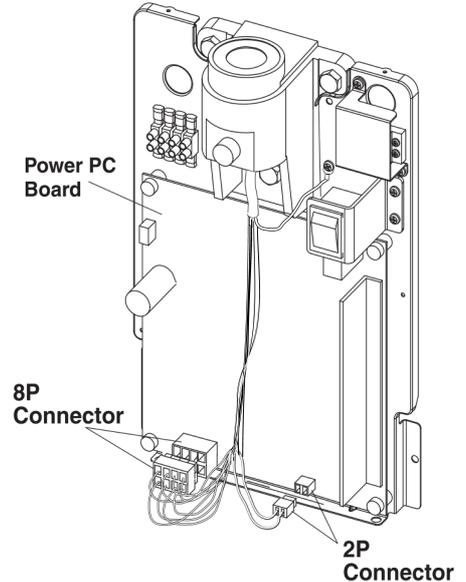

Fig.3-8 Connecting 2P and 8P Connectors on Power PC Board
5. Connect 2P and 8P connectors of horizontal arm cable to the respective connectors on power PC Board. **(Fig.3-8)**